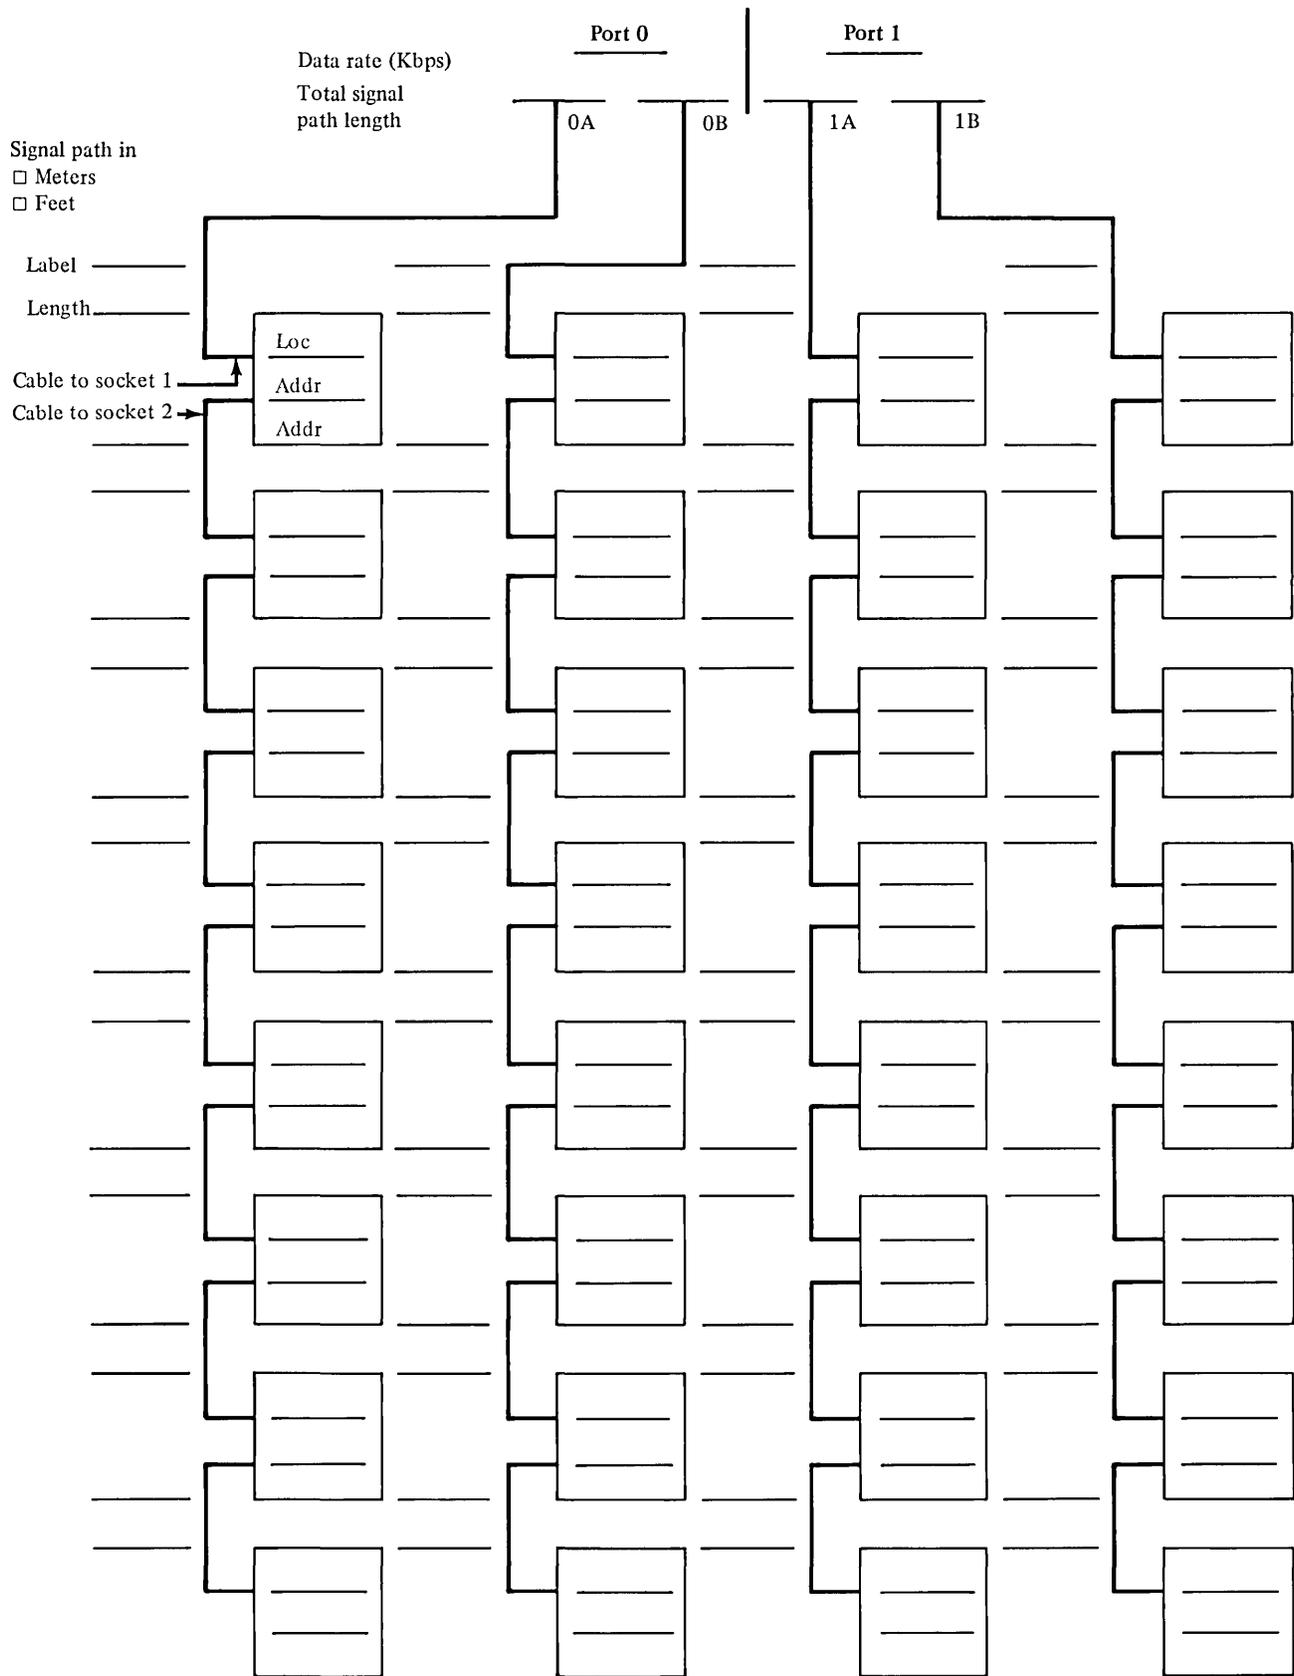

Figure 8-81. Multidrop Workstation attachment planning form
Complete a planning form (Figure 8-81) for each 1250 attachment feature and a setup form (Figure 8-83) for each 4980 workstation on your Series/1. Use these forms to set up your 4980 workstations. Also see *IBM 4980 Display Station Setup Procedures*, GA21-9297, for 4980 installation procedures.
**Multidrop Workstation attachment planning form:** Make one copy of the planning form (Figure 8-81) for each 1250 attachment on your Series/1. Use the following instructions and example (Figure 8-80) to fill out the form.
1. Copy the information you filled in for the following items on the Multidrop Workstation attachment planning form (Figure 8-81).
Copy from Multidrop Workstation attachment planning form (Figure 8-81)